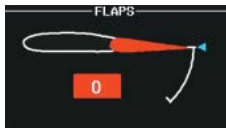

Figure 3-27 Flaps Retracted at Takeoff
- Flaps not in position for takeoff – Flap pointer and readout are shown in red with white text (Figures 3-27 and 3-28).